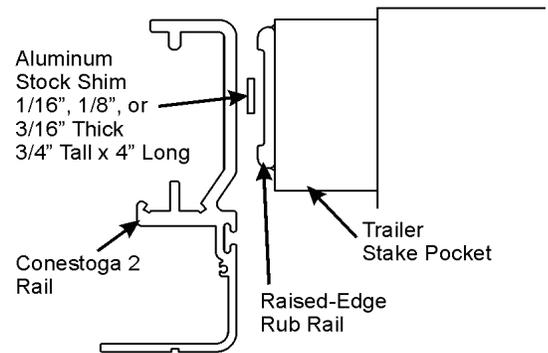

Figure 6
7) See **Figure 6**. Trailers equipped with raised-edge rub rails must use an appropriately sized shim between the rub rail and the Conestoga 2 rail at every fastener location. Failure to use shims can cause the rail to become deformed. The shims are 3/4" wide by 4" long and thicknesses are 1/16", 1/8", and 3/16".